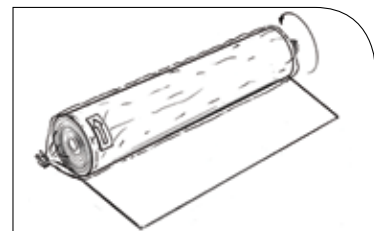

FIGURE 8 Unrolling BENTOMAT®
5.3 If sufficient access is available, GCL may be deployed by suspending the roll at the top of the slope with a group of laborers pulling the material off of the roll and down the slope (Figure 8).